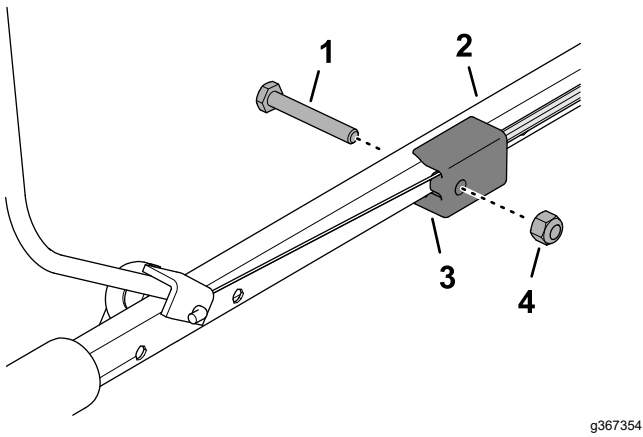

Figure 11
4. Insert the end of the operator-presence bail into the handlebar, squeeze the other leg of bail slightly, and insert the bail into the handlebar (Figure 11).
5. Secure the handlebar fitting to the upper handlebar (Figure 11) with the bolt (1/4 x 1-3/4 inches) and locknut (1/4 inch).